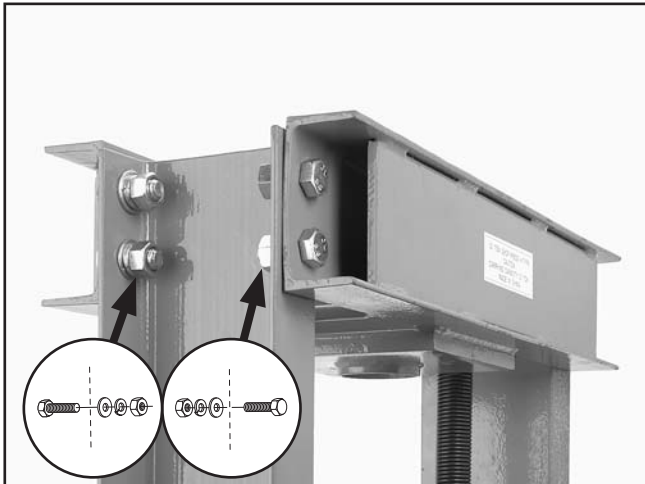

Figure 8. Upper cross-support bolt positioning.
- Swing the upper cross-support upward and into position with the mounting holes on the other U-beam, and install the remaining seven M16-2 x 35 hex bolts and matching flat washers, lock washers, and hex nuts, as shown in **Figure 8**.